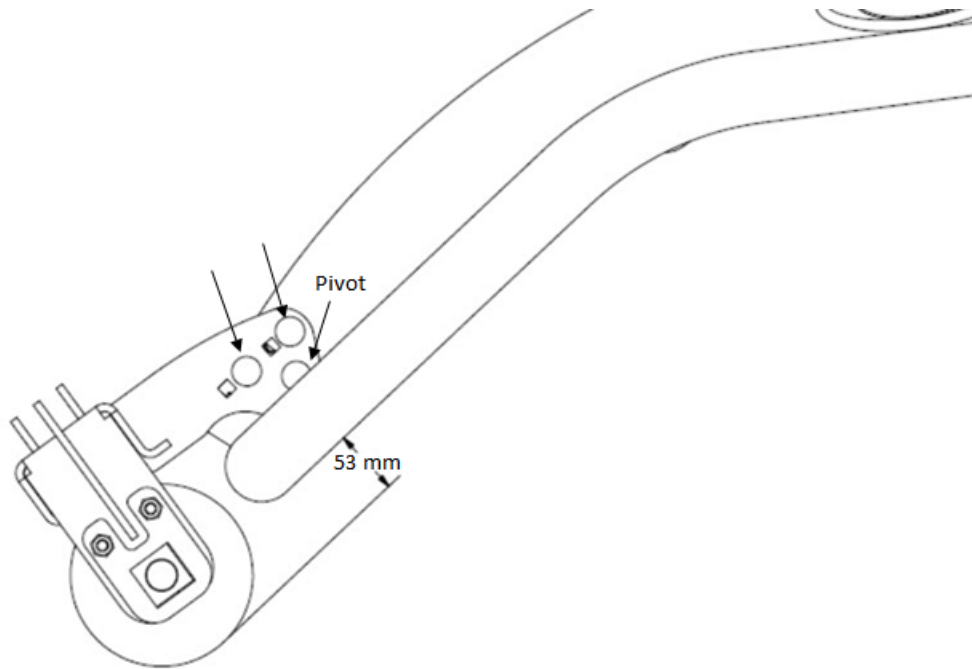

Figure 22 — Bolt Locations for 1.5 m (5 ft.) Bales
- For 1.5 m (5 ft.) bales, see Figure 22.